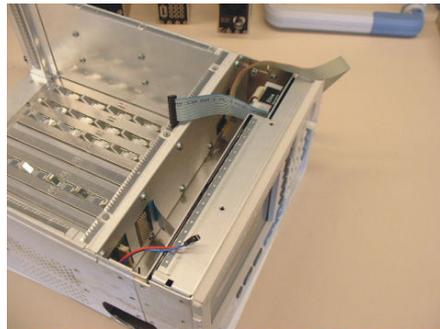

Figure 1-36
8. Disconnect cables for spinwheel, keyboard, display and fan from backplane (see Figure 1-36).